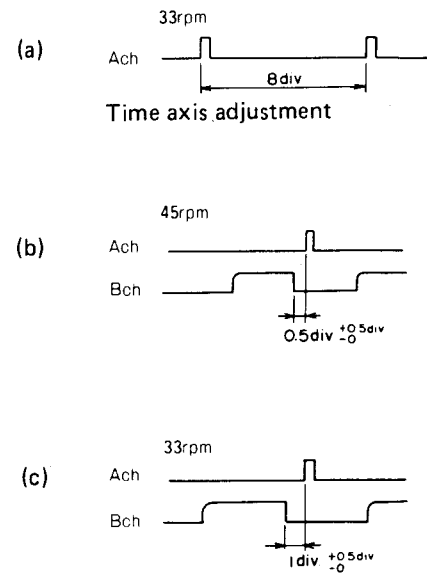

Fig. 12-2 Motor Operation Adjustment Waveforms
- Set the turntable to 33 rpm and adjust VR1 (33 rpm) until the relation between the Ach and Bch waveforms are as shown in Fig. 12-2 (c).